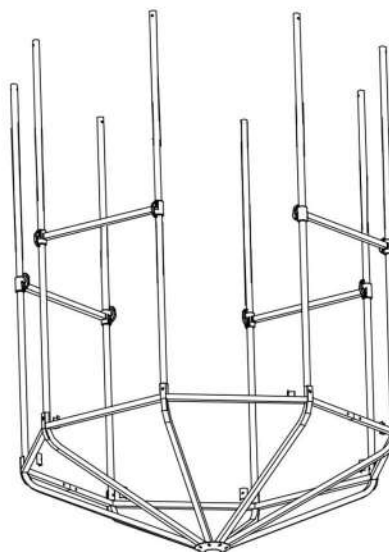

Figure 15-B
Step 15. Open the cam lever while inserting on the upright as seen in Figure 15-A. Failure to do so can damage the cam locks. Place 4 shooting rails on the long uprights in the order shown in Figure 15-B. Then install the other four shooting rails in the remaining spaces. Slide all the shooting rails about half way down the uprights and lock into position.